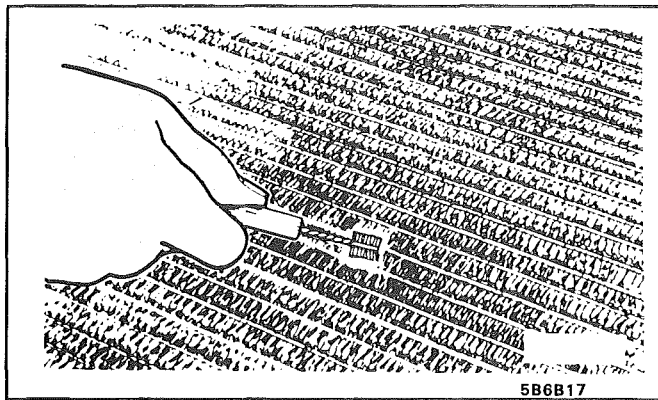

Fig. 18 Cleaning Area With Steel Brush
4. Brush the area to be repaired with the small steel brush that is supplied in the kit and blow dust away from repair area. (See Fig. 18).